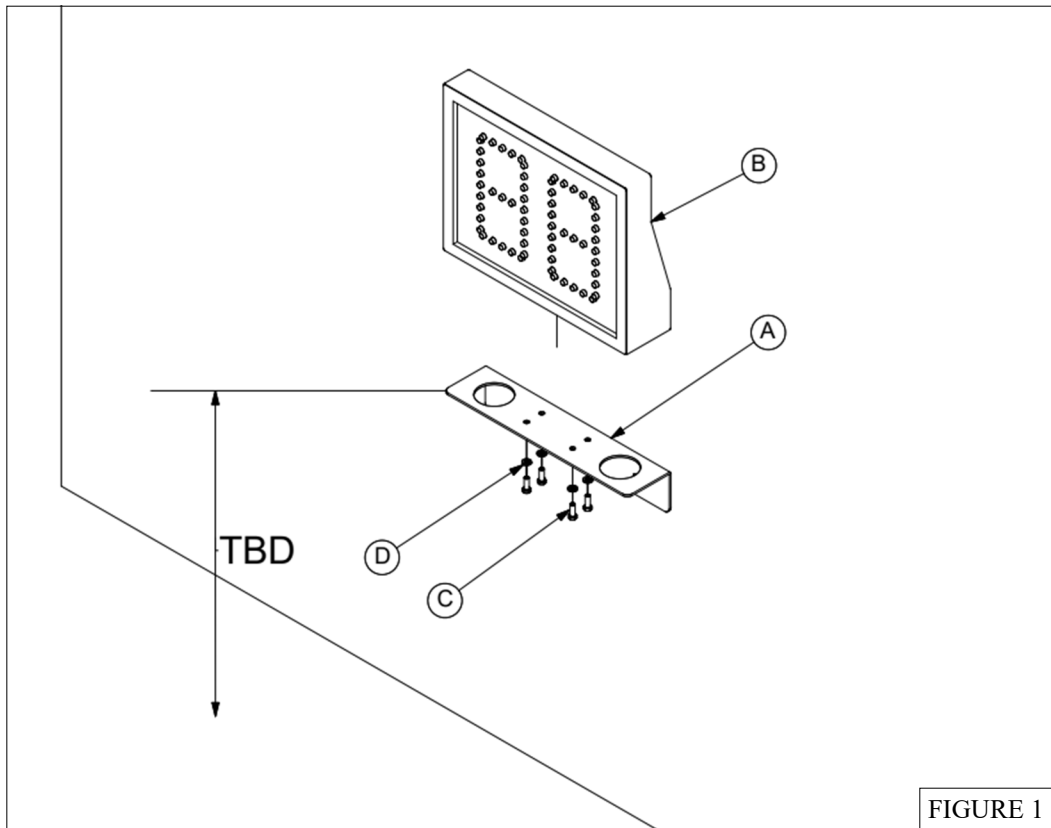

FIGURE 1
**Bison does not provide hardware to attach the *Shot Clock Brackets (A)* to the customer's wall. Attachment method and type of anchor used are the responsibility of the installer.**
1. Mount the *Shot Clock Brackets (A)* to the walls at locations that can best be seen from the court by players and officials.
2. After installation of the *Shot Clock Brackets (A)* to the walls, place the *Shot Clock (B)* on top of the *Shot Clock Brackets (A)* to prepare for installation.
3. Using *3/8-16 x 1" Hex Bolt (C)* and *3/8" Lock Washer (D)*, Install into the threaded inserts in the bottom of the *Shot Clock (B)*. See Figure 1.
4. Position antennae on the *Shot Clocks (B)* so that it maximizes the line of sight to the location where the Shot Clock Control Panel is to be operated.